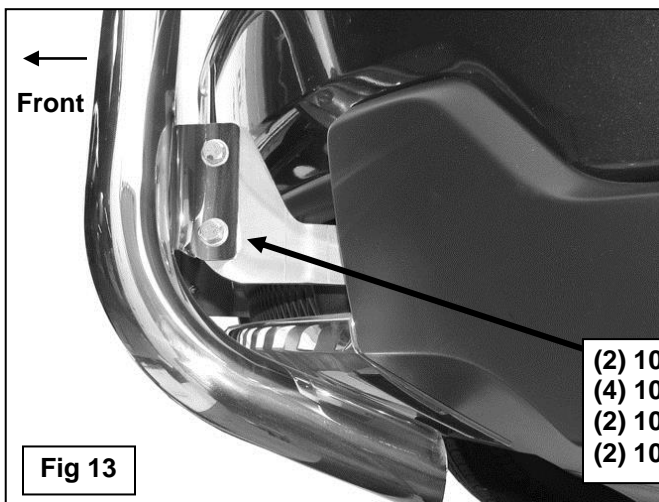

Fig 13
4. With assistance, hold the Bull Bar up to the outside of the Mounting Brackets. Attach the Bull Bar to the Mounting Brackets with the included (4) 10mm x 35mm Hex Bolts, (8) 10mm Flat Washers, (4) 10mm Lock Washers and (4) 10mm Hex Nuts, **(Figure 13)**.